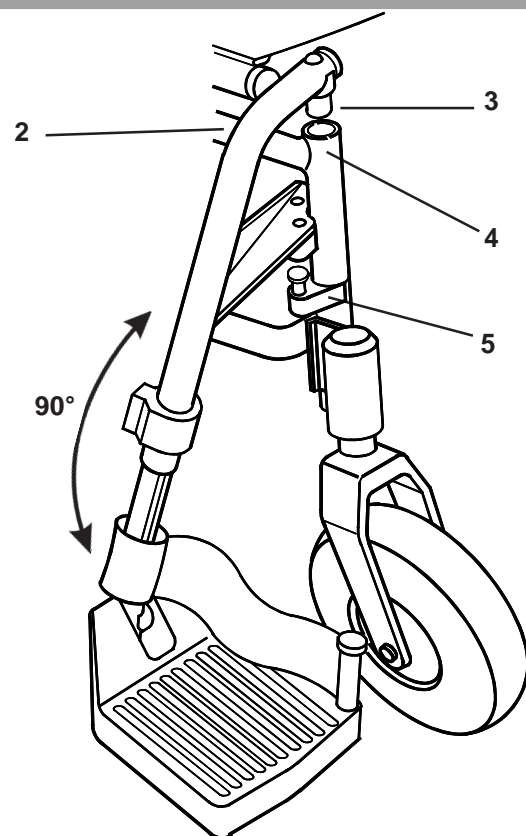

Fig. 15
Do not force the footrest hangers past the angle of 90° as pictured in Fig. 15.
To replace the footrest (Fig. 15), place the swingaway pivot saddle (3) into the receiver (4) on the frame (2) with the footrest facing outward from the frame. Rotate the footrest inward until it locks into place on the locking stud (5).